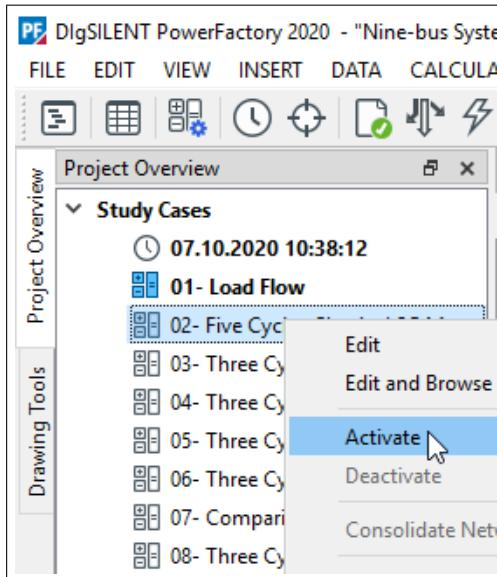

Figure 13.2.1: Activating a study case from the Project Overview window
- Open the Data Manager. The active study case and the folder(s) where it is stored are highlighted. Right-click on the active study case and choose *Deactivate* from the context-sensitive menu. To activate an inactive study case place the cursor on its name, right-click and choose *Activate*. Study cases may also be activated via the Project Overview Window (see Figure 13.2.1).